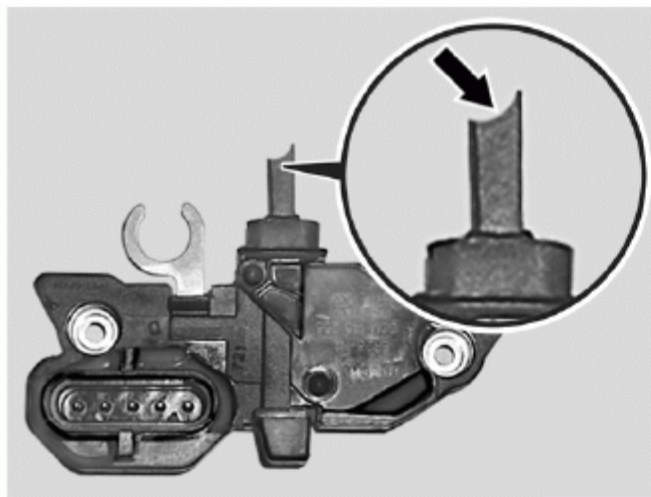

Figure 13
3. Inspect wear shape (arrow, Figure 13) of carbon brushes: